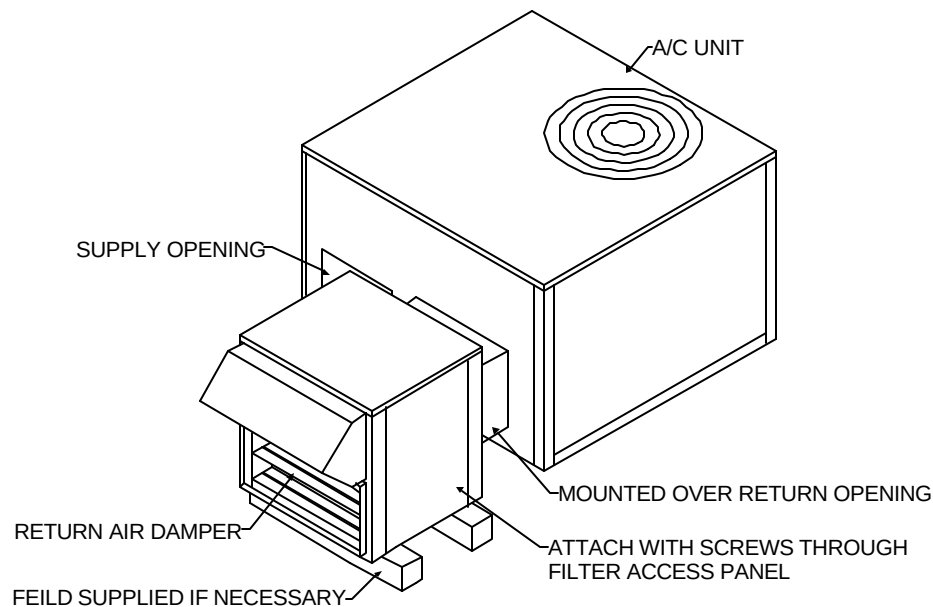

Figure 3
Remove air filter from Economizer. Secure Economizer to unit using (8) screws as shown in Figure 3. Replace filter then filter access panel.